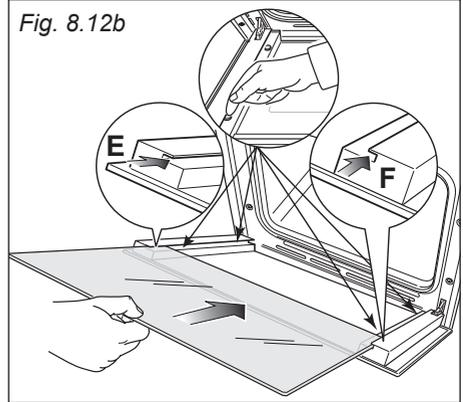
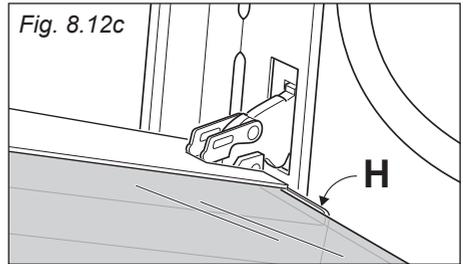

Fig. 8.12b
Fig. 8.12c
- IMPORTANT:** It is advisable, while refitting the glass, to keep pressed in position the four rubber pads "D", by a finger, to avoid breakage or slippage of the rubber pads themselves (fig. 8.12b).
- Insert the pane in the left "E" and right "F" slide guides (fig. 8.12b), and gently slide it to the retainers "H" (fig. 8.12c).